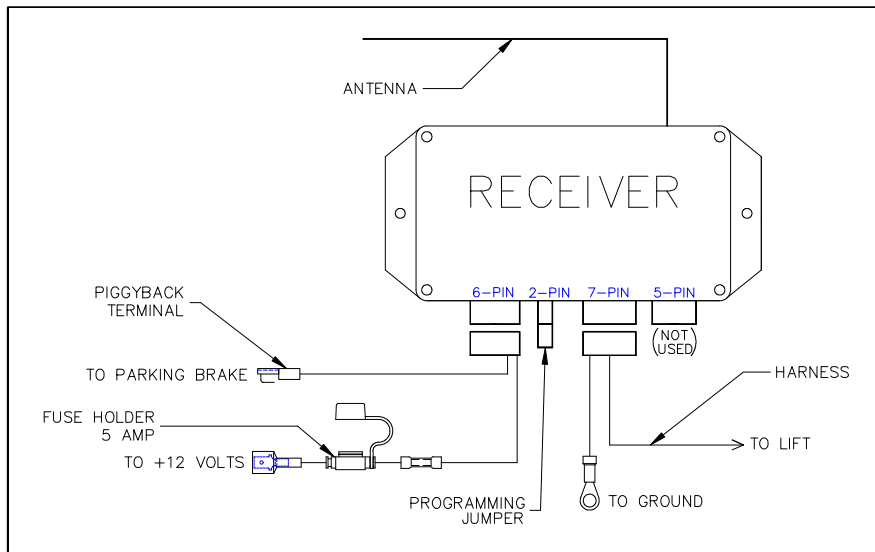

FIGURE 3-2: REMOTE CONTROL WIRING DIAGRAM
- c. Refer to **Figure 3-2**. Install 2-pin programming jumper on 2-pin receiver connector.